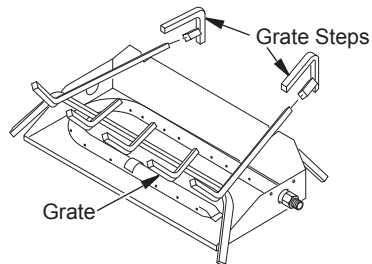

Figure 8 - Installing Grate (Pan Material Not Shown)
2. Slide the two rear log grate steps over the two outer horizontal supports on the grate as shown in Figure 8.